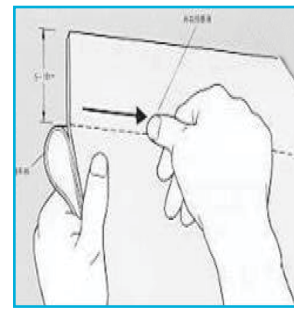

Figure 1.
4. Align the Product and use a finger to tack it to the substrate. **See Figure 1.**